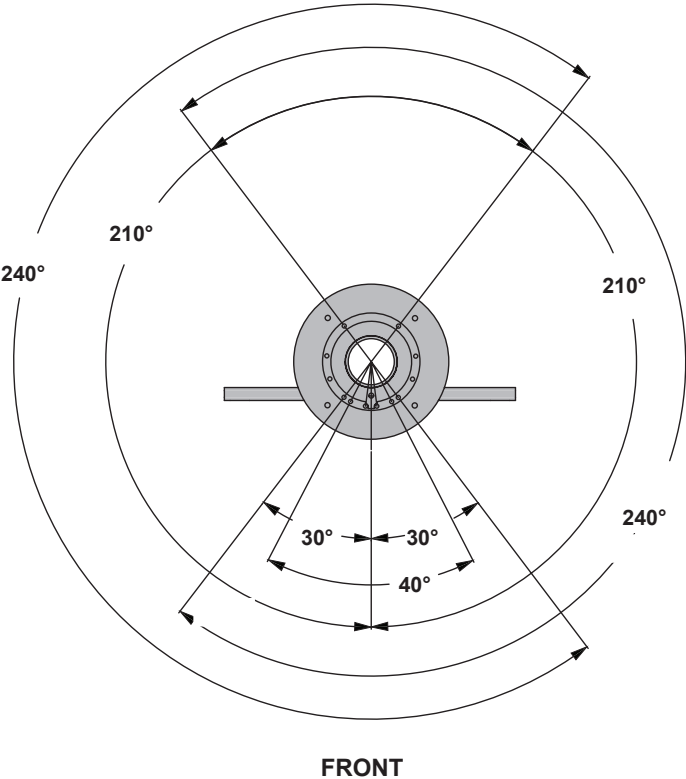

fig. 4.1
- Refer to fig. 4.1 and 4.2, select the desired swivel degree. Using a 3/32" allen wrench, fasten two set screws (M) where indicated below to the outside of desired angle in steel base (C).